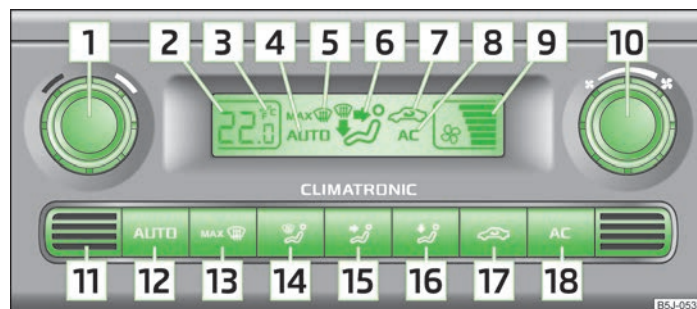

Fig. 77 Climatronic: Control elements
- > (AC) 18 » Fig. 77 on page 73 switched on.
- > Press the button (AUTO) 12 » Fig. 77 on page 73.
Press and hold the buttons (AUTO) and (AC) » Fig. 77 on page 73 at the same time. The information in the desired temperature measuring unit appears in the display.
The interior temperature sensor 11 » Fig. 77 is located in the bottom part of the device. Do not stick anything on or cover the sensor, otherwise it could have an unfavourable effect on the Climatronic.
- Press the button \(AUTO\) 12 » Fig. 77 on page 73; **AUTO** is shown in the display.
- The required interior temperature can be set with the control dial 1 » Fig. 77 on page 73 after switching on the ignition.
- Press the button \(🌀\) 17 » Fig. 77 on page 73; the symbol 🌀 appears in the display.
- Press the button \(🌀\) 17 » Fig. 77 on page 73 again and the symbol 🌀 disappears from the display.
- Turn the control dial 10 » Fig. 77 on page 73 to the left (reduce blower speed) or right (increase blower speed).
➤ Press the button  » Fig. 77 on page 73.
➤ Once again press the button  » Fig. 77 on page 73 or the button .